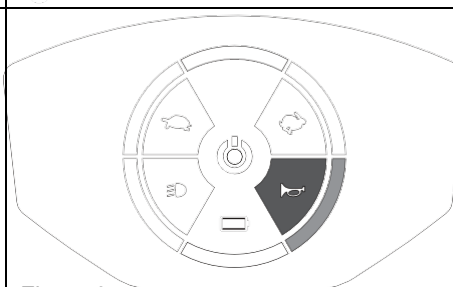

Figure 9
- Press horn button to sound the buzzer. Buzzer sound and light will last until you release the horn button. (Figure 9)